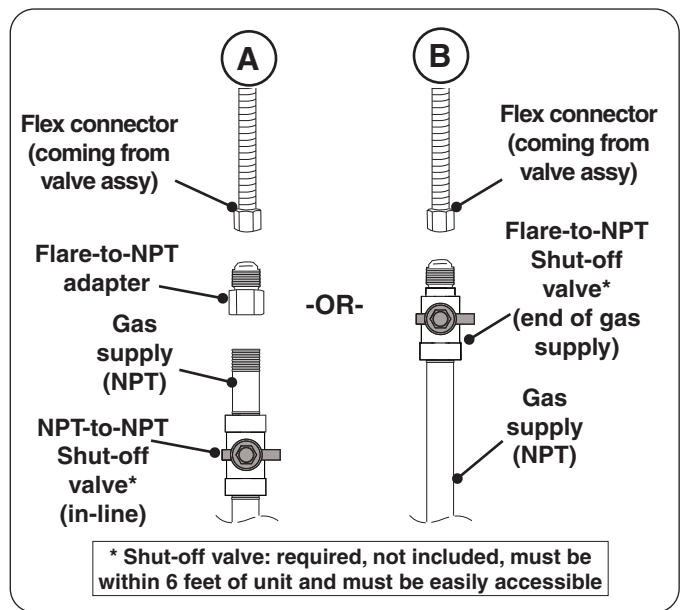

Fig. 27-1 Connecting to a gas line
- Install the supplied flare-to-NPT adapter to the gas supply (NPT) using a pipe joint compound resistant to all gasses (see Fig. 27-1, A). Tighten securely.
- Connect the flex connector to the adapter (see Fig. 27-1, A). Tighten securely.
- Connect the flex connector to the shut-off valve (flare)(see Fig. 27-1, B). Tighten securely.